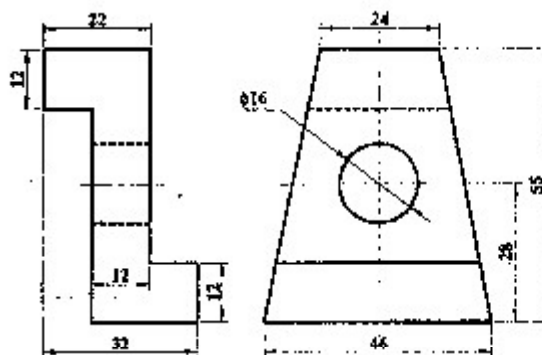

Figure P.1
- Orthographic views of an object are shown in Figure P.1. Draw its isometric view. [9]
1. Draw isometric drawing from the given orthographic views as shown in Figure P.1. [10]